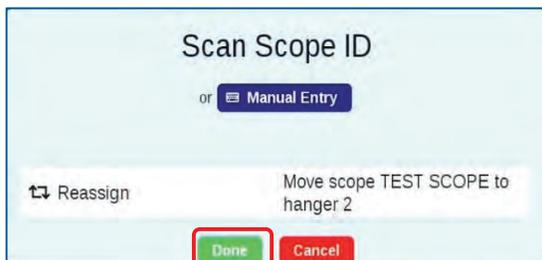
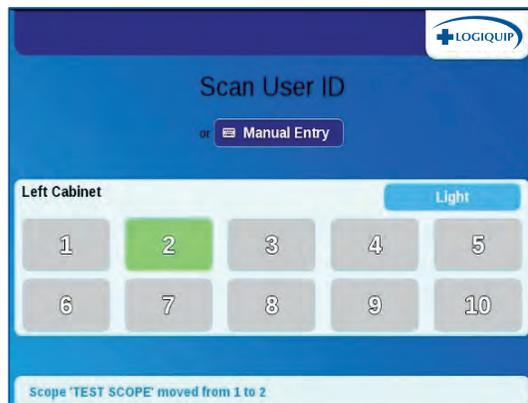

Fig. 81
Fig. 82
4. Once all scopes have been reassigned, press the ‘Done’ button (Fig. 81) to complete the process. Scopes that were reassigned will be moved to their new hanger location (Fig. 82).